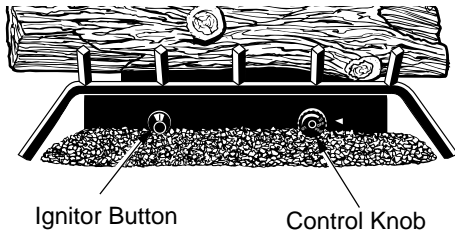

Figure 37 - Control Knob and Ignitor Button Location
4. Wait five (5) minutes to clear out any gas. Then smell for gas, including near the floor. If you smell gas, STOP! Follow "B" in the safety information, column 1. If you don't smell gas, go to the next step.
5. Turn control knob counterclockwise  to the PILOT position. Press in control knob for five (5) seconds (see Figure 37, page 20).